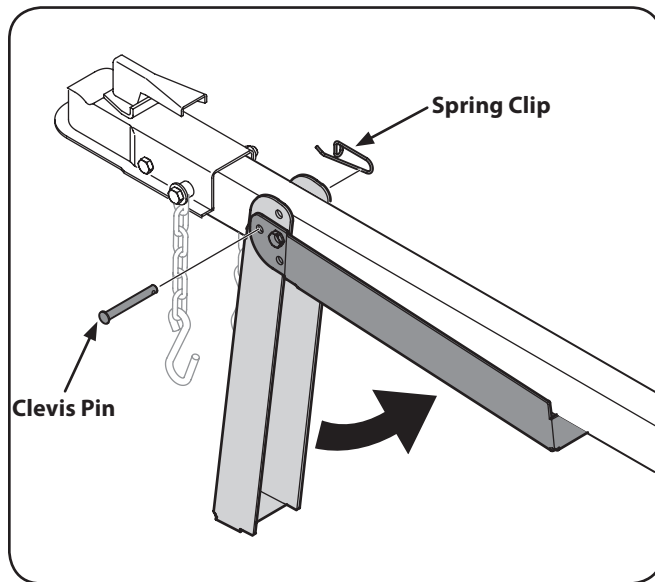

Figure 5-5
3. Support the tongue and pivot the jack stand up against the tongue. See Figure 5-5.
4. Secure with the spring clip and clevis pin previously removed. See Figure 5-5.